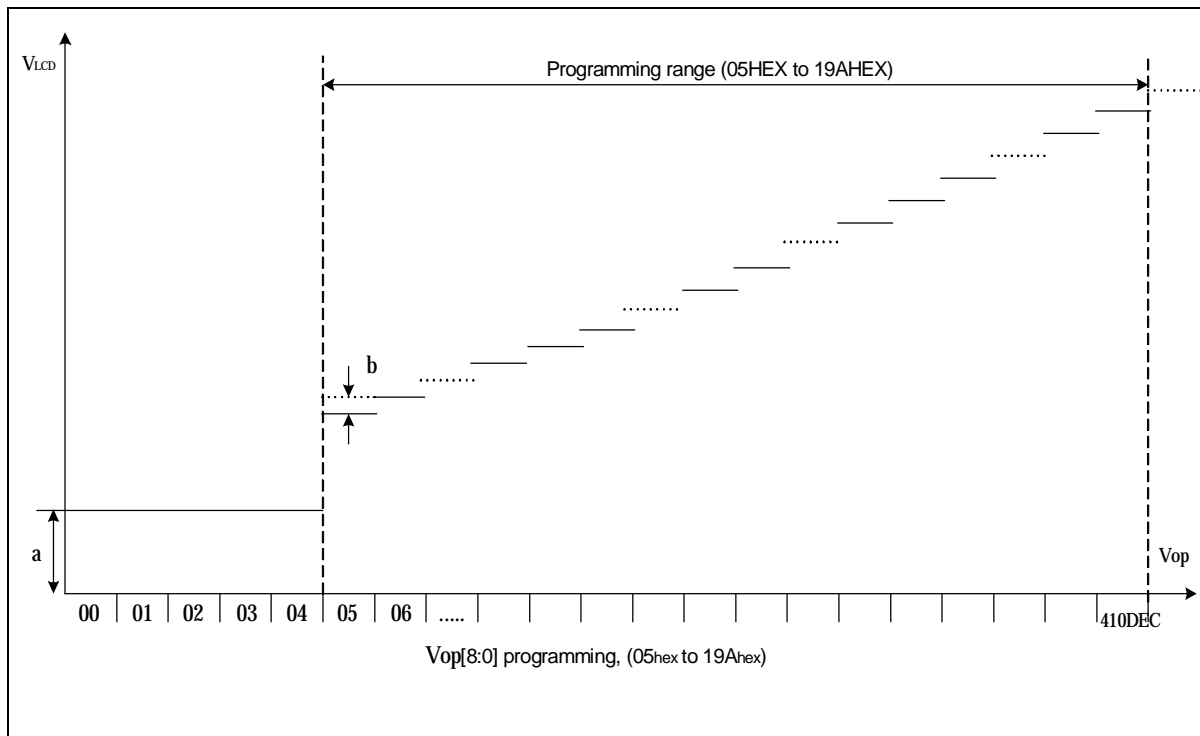

Figure 7.10.2 VLCD programming range
The Vop[8:0] value must be in the VLCD programming range as given in Figure 7.10.2. Evaluating equation (1), values outside the programming range indicated in Figure 7.10.2 may result. Calculated values below 4 will be mapped to VOP[8:0] = 4, resulting VOP[8:0] values higher than 410 will be mapped to VOP[8:0] = 410.